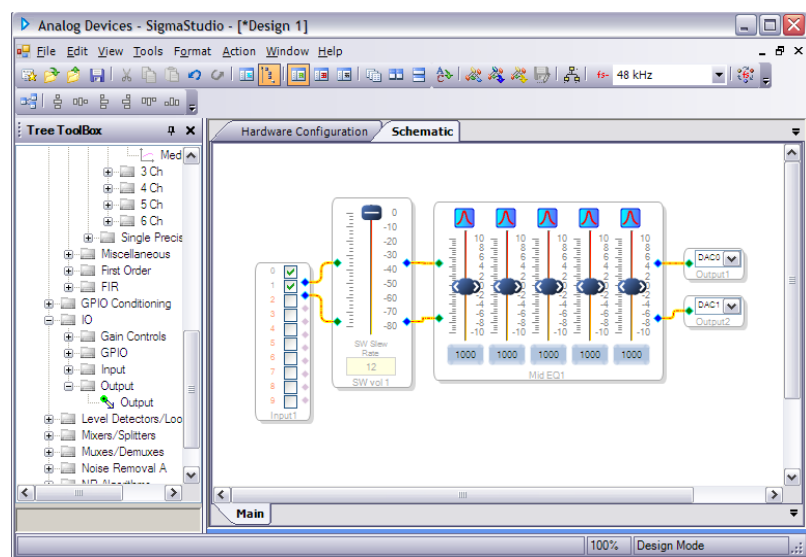

Figure 4. Schematic Tab, Full Design
13. Connect all the cells as depicted in Figure 4.
Your screen should now appear as it does in Figure 4.